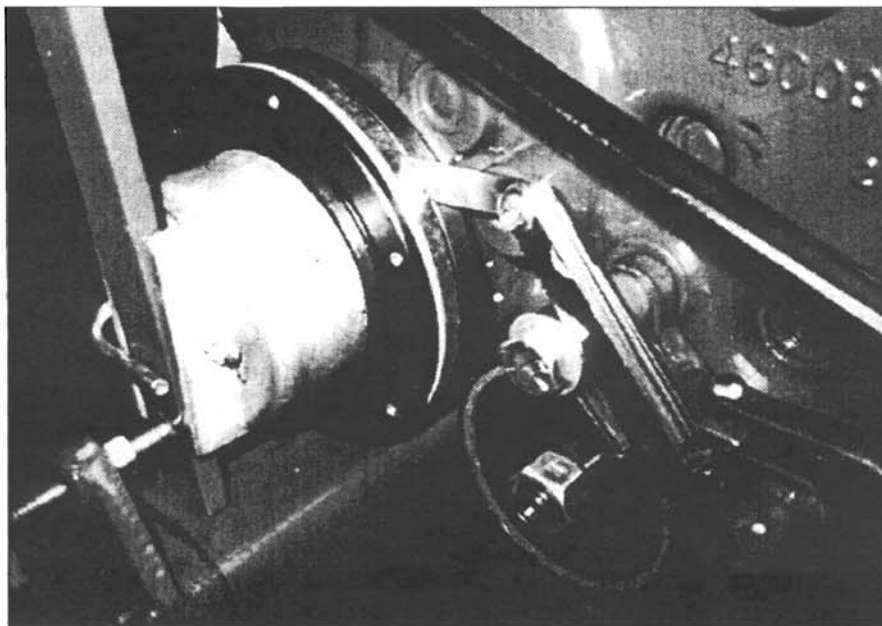

FIGURE 5
3. Measure the clearance in the slot. The correct clearance is .030 inch (.76mm) to .060 inch (1.5mm) for the forward clutch and .010 inch (.25mm) to .030 inch (.76mm) for the reverse clutch. Figure 5.